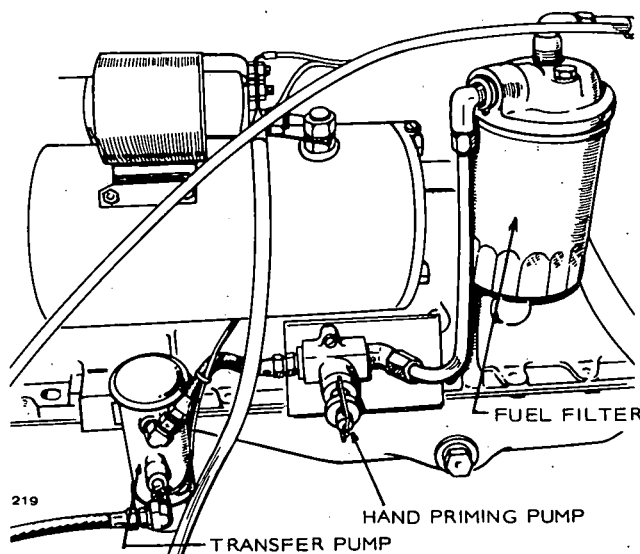

FIGURE 18. FUEL INJECTION SYSTEM
1. Loosen filter vent screw (Figure 18).
2. Using hand pump (Figure 18), prime system until fuel flow around filter vent screw is free of bubbles.